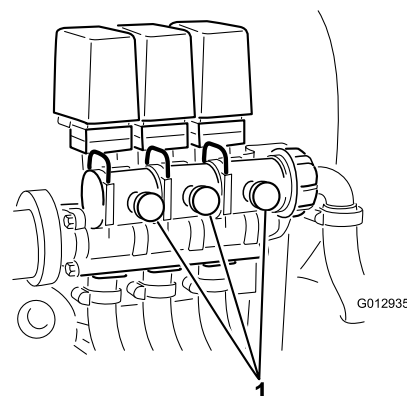

Figure 30
12. Adjust the boom bypass valve (Figure 30) on the boom control valve for the boom you turned off until the pressure reading on the gauge is the same as it was in step 9.